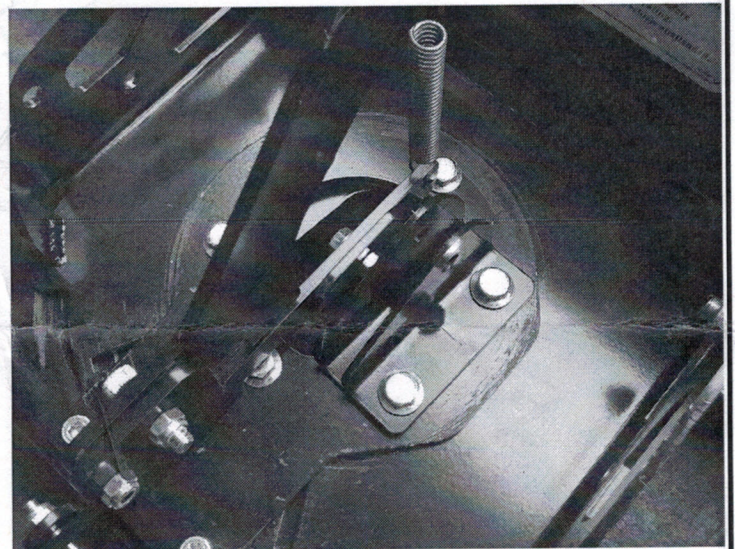

Figure 2
2. Position shorter L-bracket over longer bracket. Secure the brackets to tube assembly with longer M10 flange head bolts provided in this kit. See Figure 2.